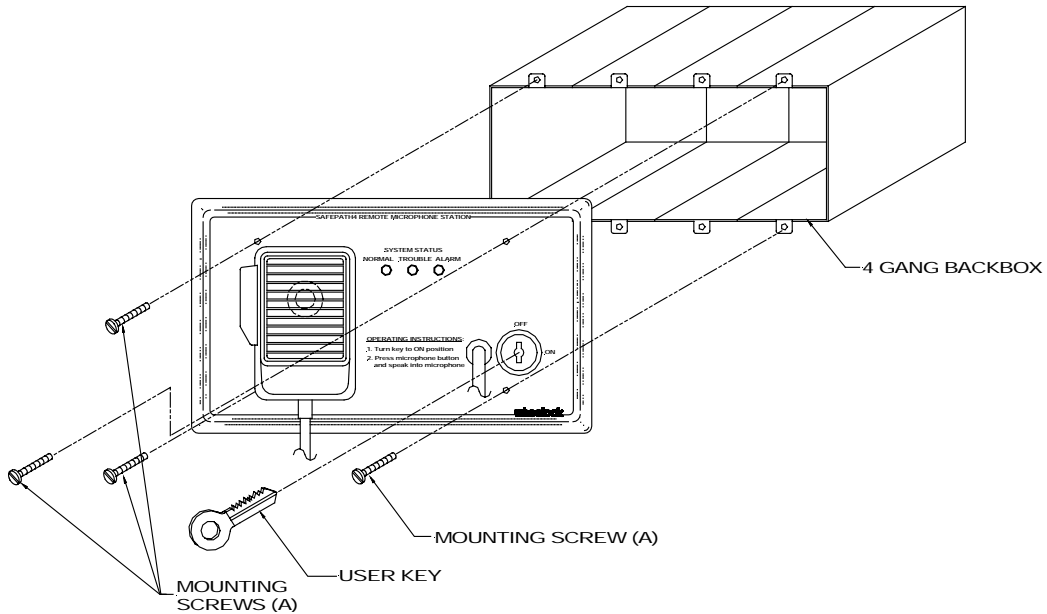

Figure 2:
Figure 2 shows the proper mounting requirements for the *SPRM*.
3. Attach the mounting plate to the box with the 4 screws as shown in Figure 2.